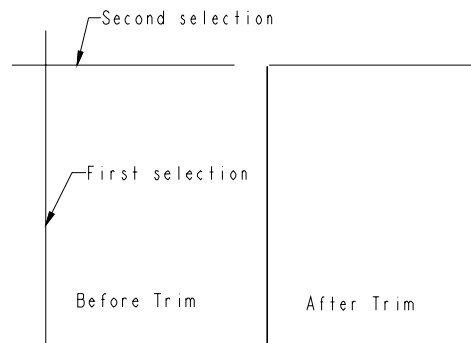

Figure 1-21 Trimming the lines using the **Corner** option
2. Using the left mouse button, select the two entities on the sides you want to keep after trimming, see Figure 1-21. These two entities must be intersecting entities. The entities are trimmed from the point of intersection.